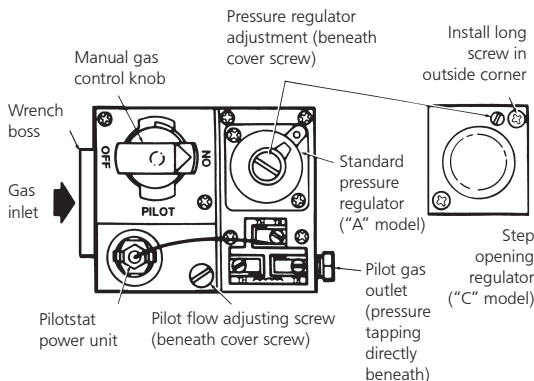

Figure 8.
- a. Remove pilot adjustment cover screw. Refer to Figure 8.
Pilot gas flow adjustment screw may be closed	Open and adjust (see figure 8)